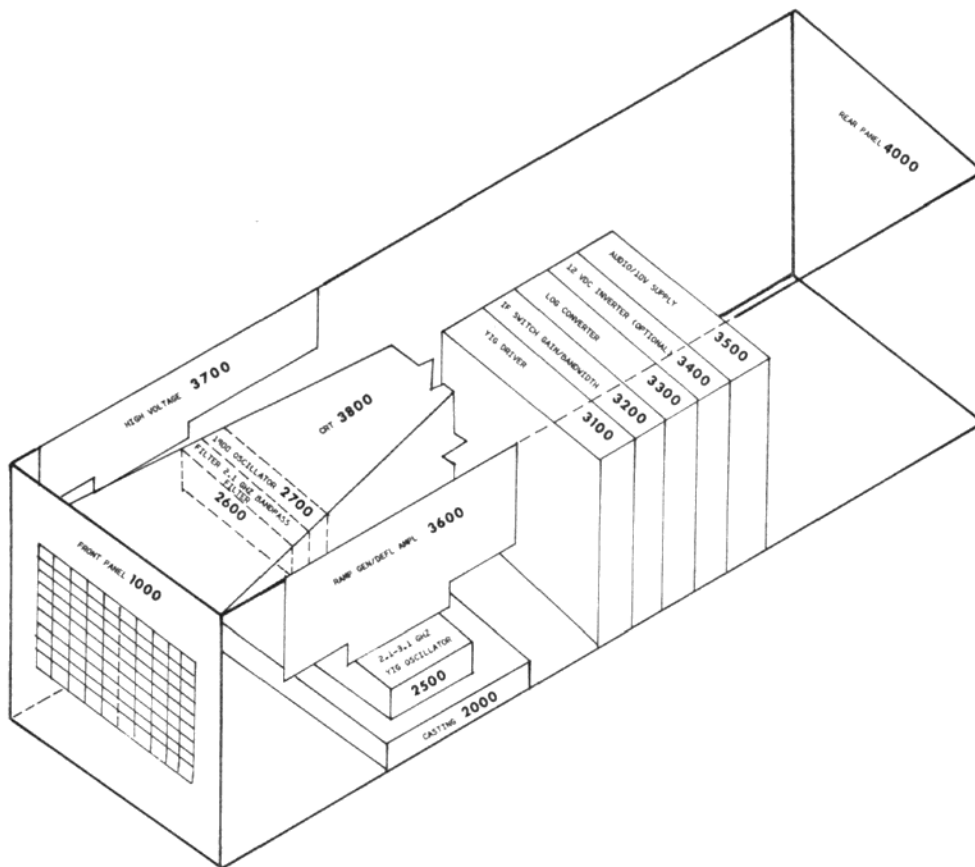

Figure 4-1. Circuit Board and Assembly Locations
- 4.17 Make adjustments as follows: (Refer to Figure 4-1 for circuit board and assembly locations).